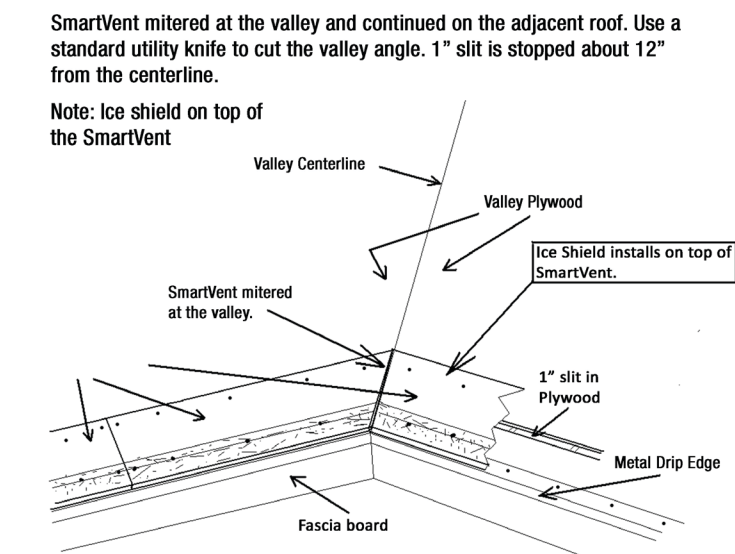
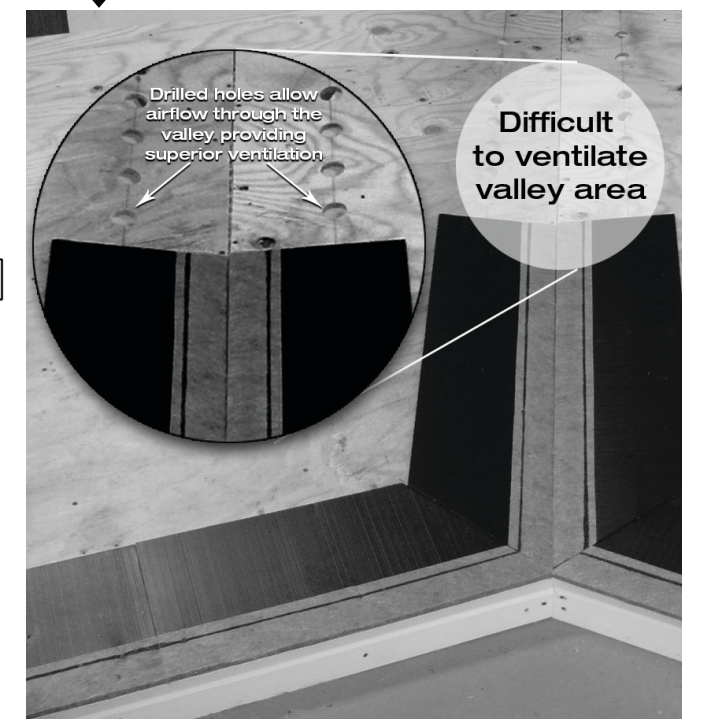

FIGURE 1
FIGURE 2
Decide if you will miter (Figure 1) or vent the valley (Figure 2). If miter skip to Step 4 and see Figure 1.
STEP 3: Install one TRI-BUILT SmartVent with the smooth side up and the thick edge toward the valley. Install a second SmartVent on the opposing side matching the thick edges together at the centerline. Install with eight nails, four along the upper edge and four along the lower edge of each TRI-BUILT SmartVent piece. Angle cut the TRI-BUILT SmartVent as shown in Figure 2.